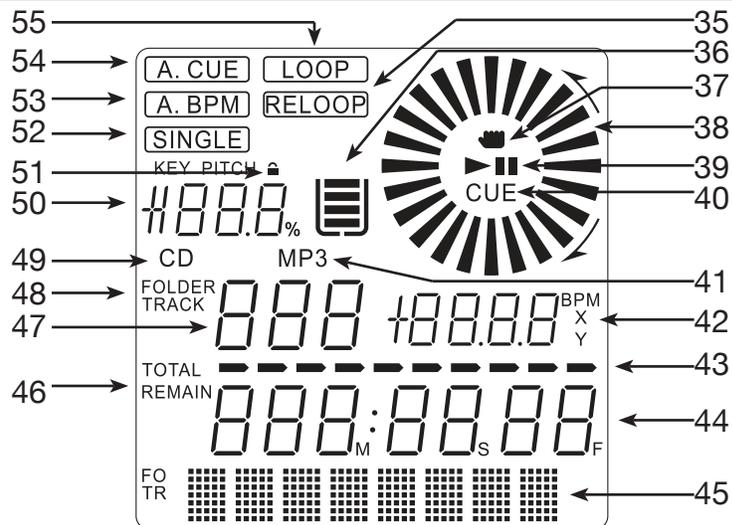

Figure 6
D. LCD DISPLAY PANEL (FIGURE 6)
37. JOG WHEEL TOUCH INDICATOR - A hand icon will appear in the LCD when the touch sensor is triggered. When the *JOG WHEEL (14)* is set to Scratch Mode touching the *JOG WHEEL (14)* will hold playback in place.